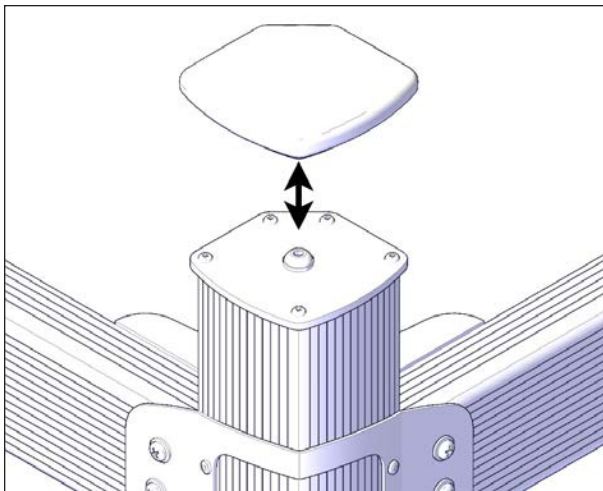

FIGURE 66: RUBBER CAP INSTALLATION
29. Install the rubber caps on all posts. These caps protect the post assembly tops from weathering see Figure 66.